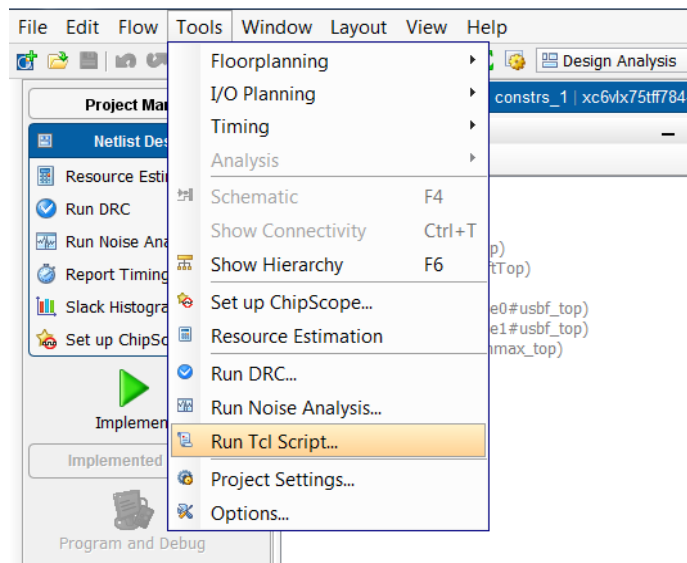

Figure 1-4: Launching the Run Tcl Script Command
2. In the GUI, click **Tools > Run Tcl Script** to launch the Run Script dialog box, as shown in Figure 1-4.